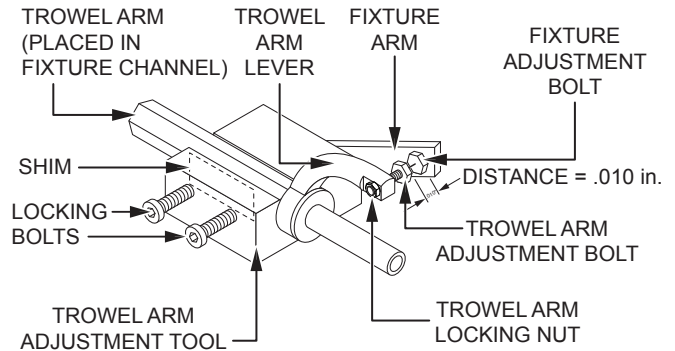

Figure 72. Trowel Arm Adjustment
1. Unscrew the locking bolts on the adjustment tool and place a trowel arm (with lever attached) into the fixture channel as shown in Figure 72.
3. A thin shim (Figure 72) may be required to cover the blade holes on the trowel arm. Be sure to align the trowel arm adjustment bolt with the fixture adjustment bolt.
4. Tighten the locking bolts (Figure 72) to secure the trowel arm in place.
5. Adjust the bolt distance shown in Figure 72 to match one of the arms. The other arms will be adjusted to match this distance.
6. Loosen the locking nut on the trowel arm lever, then turn the trowel arm adjusting bolt until it barely touches (.010") the fixture adjustment bolt. See Figure 72.